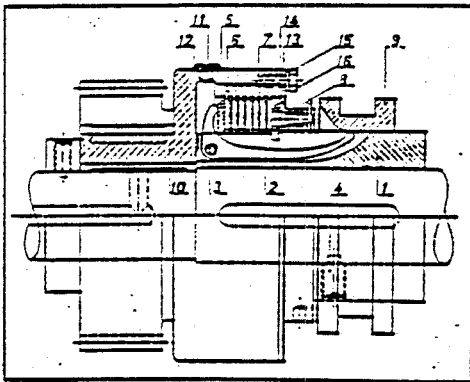
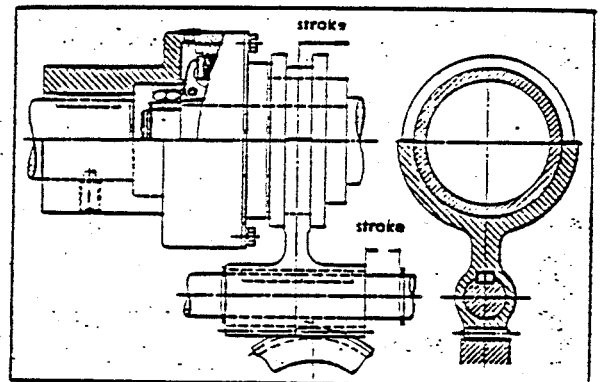

Fig. 5
Fig. 6
(Fig. 5). The housing (10) is splined in the inner part to fix the outer discs (6) whilst the Sinus-inner discs (7) are guided in splines on the disc support (1). If the sliding ring (9) is moved to the left, it operates the three levers (2) which press the discs into contact and thus achieve a transmission of movement from the driving to the driven element. The disc set is readjustable by means of an adjusting nut (8).
If ordering spare parts the manufacturing number, shown on the housing or the disc support, must be indicated, with complement of the part number shown in Fig. 5. For clutches manufactured in 1943 or before spares are only supplyable according to sample, drawing or paper-print. To avoid faulty deliveries, please, order spare parts only by letter or telegram, but never by phone.
Note the following: Place the bearings as close as possible to the clutch. Where this is not practicable and in any case where high speeds are to be transmitted the stepped shafts of shaft clutches have to be positioned one into another (see Fig. 6). Stepped shafts must be in accurate alignment (see Fig. 7—9).
The inner disc support must be firmly fixed to the shaft so that an axial displacement is not possible. This is best achieved by having a stepped shaft as shown in Fig. 6 or with plain shafts as shown in Fig. 5. The axial displacement is prevented by means of a grub screw (4) which will be secured after mounting by means of a punch blow.